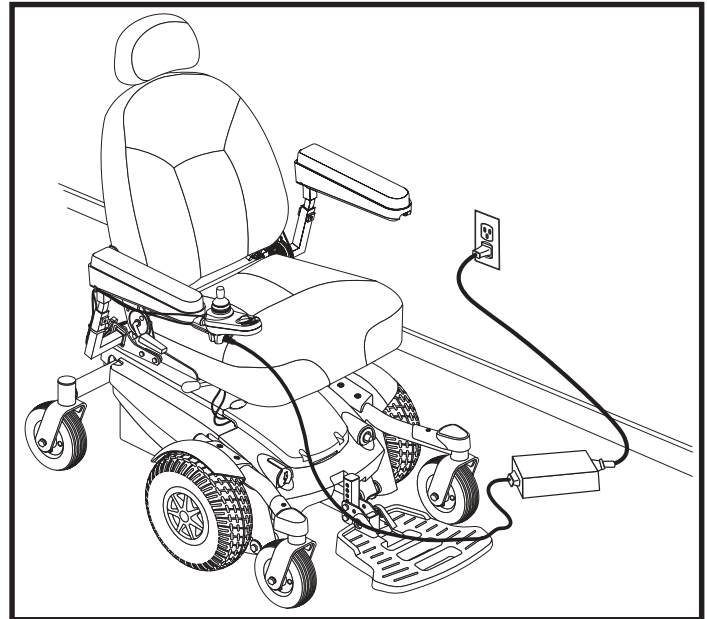

Figure 28. Battery Charging (Select 6 Shown)
3. Plug the off-board charger into the off-board charger/programming socket on the controller. See figure 28.